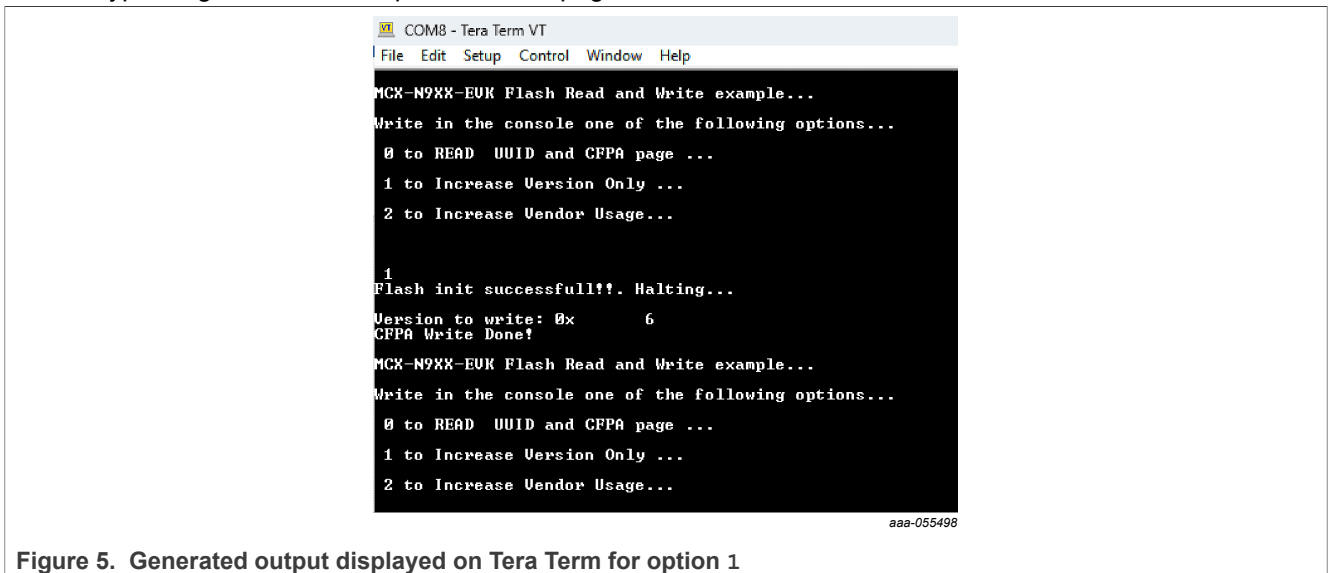

Figure 5. Generated output displayed on Tera Term for option 1
2. If the user chooses the second option by typing 1, the new version of the CFPa page that is written into the version field is shown in Figure 5. After the confirmation message is printed (“CFPa Write Done!”), the user can type 0 again to see the updated CFPa page contents.